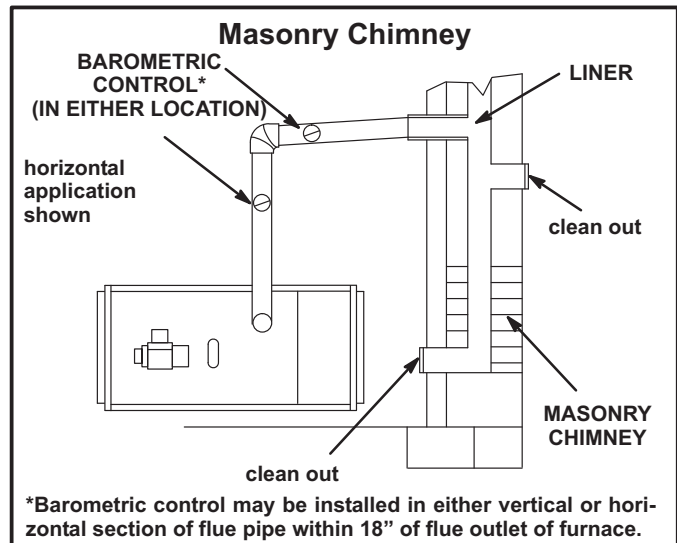

Figure 8
- 9 - The vent pipe should slope upward toward the chimney on horizontal run at least 1/4 inch (6 mm) to the foot (0.3 m) and should be supported by something other than the furnace, such as isolation hangers. See figure 8.